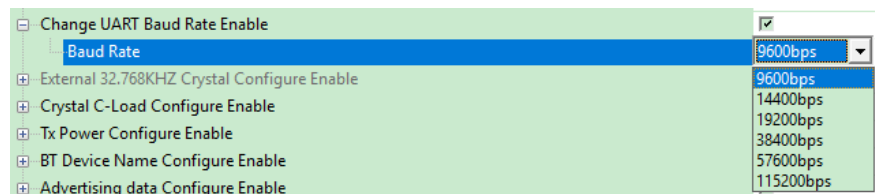

Figure 13
- **Change the UART Baud Rate Enable:** Click to enable “Change UART Baud Rate”, click the additional item “Baud Rate” to select a baud rate, as shown in Figure 13. This option can be used to setup the BLE and internal MCU baud rate at the same time. It will only be executed after the default baud rate of the internal MCU and BLE has been setup and are the same.